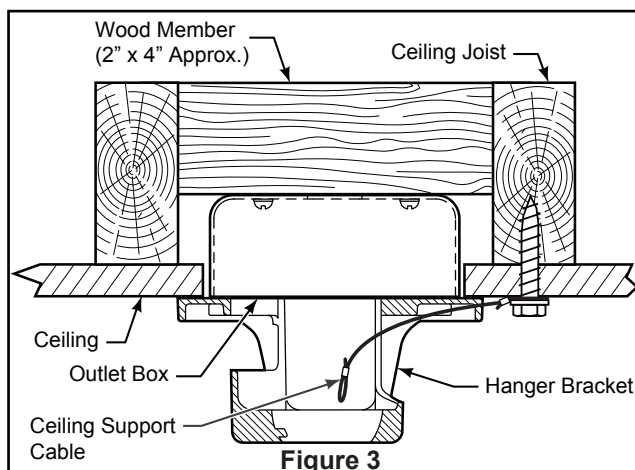

Figure 3
1. Securely attach the hanger bracket to the outlet box using the outlet box screws and washers supplied with the outlet box. (Figure 3)
2. Drill a 1/4" pilot hole into the building structure to prevent splitting or cracking with installation of the lag bolt. Using the 3/8" x 2" lag bolt and flat washer, attach safety cable to ceiling joist or wood structural member. The lag bolt will pass through the flat washer, safety cable loop, and into the building structure. (Figure 3)
NOTE: Ceiling support cable cannot be secured to outlet box only, it must be directly secured to ceiling joist or structural member using the 3/8" x 2" lag bolt and flat washer. (Figure 3)
2. Slide the receiver into the hanger bracket before wiring as shown in figure 3.